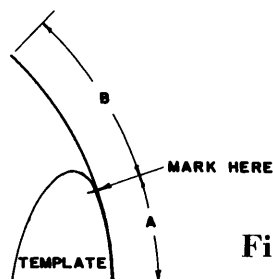

Fig. 2.
3. Place sheet on template. Mark on sheet and template where sheet leaves it. (Fig. 2)